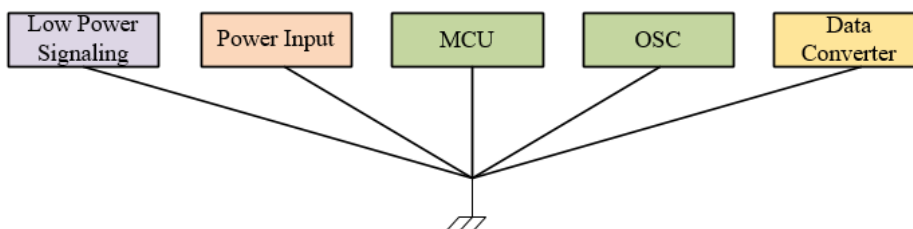

Figure 1. Single point return path example
- Figure 1 shows a single point return path that is found in low-cost designs, is focused on DC power up to a few Megahertz, after which the impedance brought on the by length of the wires causes appreciable voltage drops between connections; or